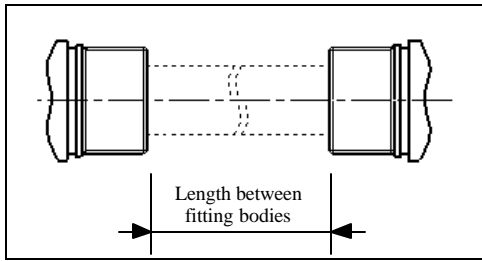

Figure 7 . Length between fitting bodies
- The standard cut length means the length between bodies (Figure 7) plus the additional length .